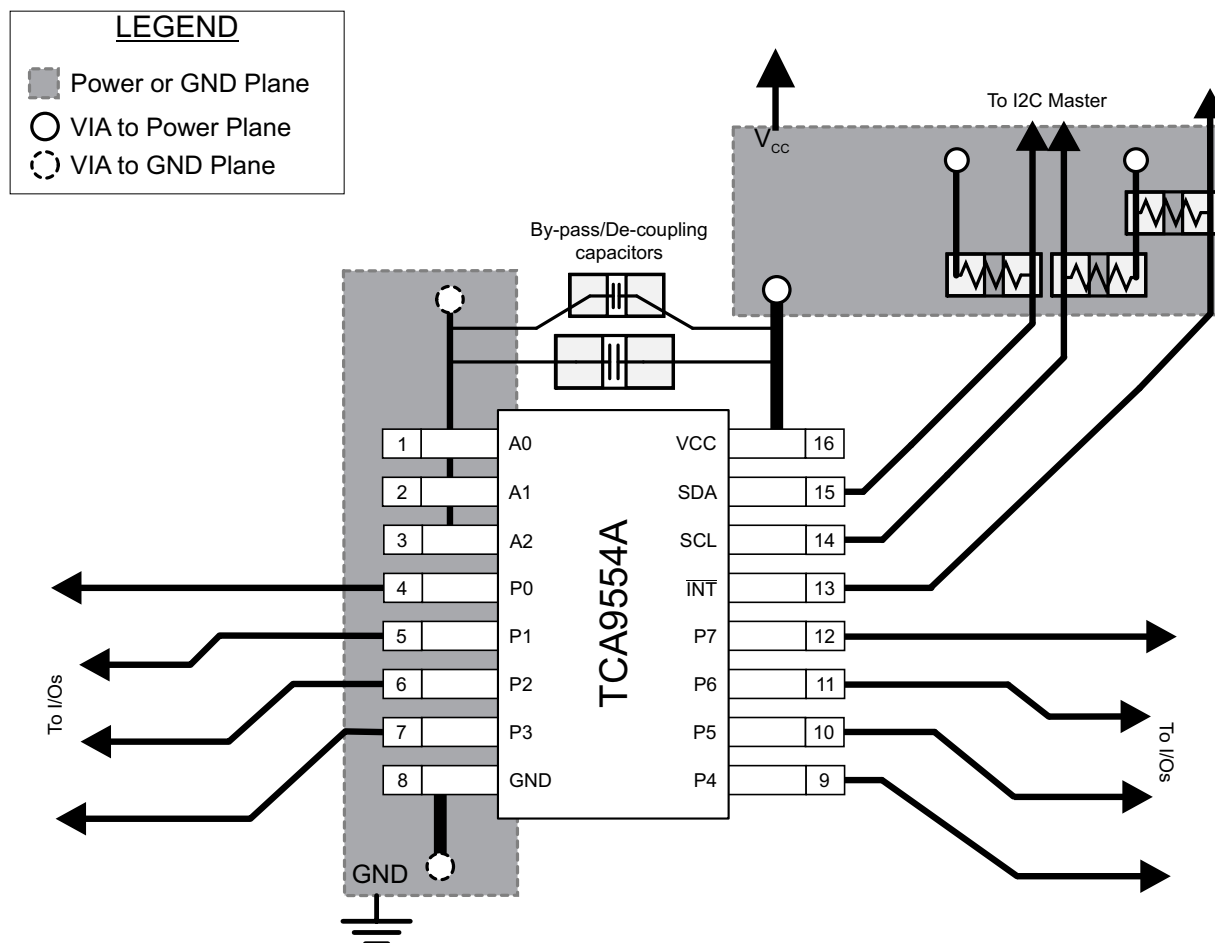

Figure 34. TCA9554A Layout
In all PCB layouts, it is a best practice to avoid right angles in signal traces, to fan out signal traces away from each other upon leaving the vicinity of an integrated circuit (IC), and to use thicker trace widths to carry higher amounts of current that commonly pass through power and ground traces. By-pass and de-coupling capacitors are commonly used to control the voltage on the VCC pin, using a larger capacitor to provide additional power in the event of a short power supply glitch and a smaller capacitor to filter out high-frequency ripple. These capacitors must be placed as close to the TCA9554A as possible. These best practices are shown in Figure 34.
For the layout example provided in Figure 34, it is possible to fabricate a PCB with only 2 layers by using the top layer for signal routing and the bottom layer as a split plane for power (V_{CC}) and ground (GND). However, a 4 layer board is preferable for boards with higher density signal routing. On a 4 layer PCB, it is common to route signals on the top and bottom layer, dedicate one internal layer to a ground plane, and dedicate the other internal layer to a power plane. In a board layout using planes or split planes for power and ground, vias are placed directly next to the surface mount component pad which needs to attach to V_{CC} or GND and the via is connected electrically to the internal layer or the other side of the board. Vias are also used when a signal trace needs to be routed to the opposite side of the board, but this technique is not demonstrated in Figure 34.